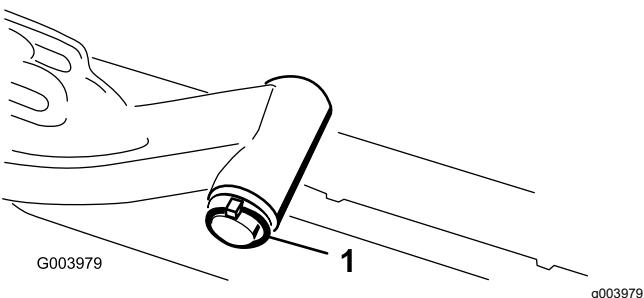

Figure 11
1. Remove the lynch pin and washer securing the lift-arm pivot shaft to the lift arm and slide the lift-arm pivot shaft out of the lift arm (Figure 11).
- 3. Insert the lift-arm shaft into the lift arm and secure it with the washer and lynch pin (Figure 11).